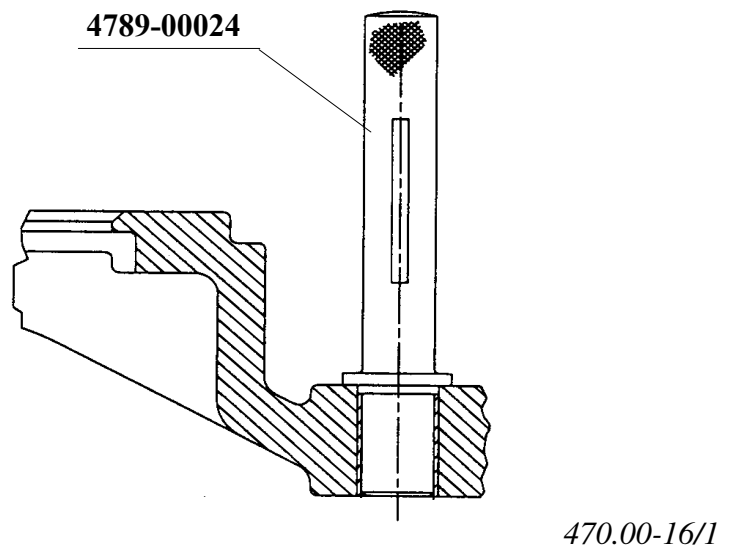

Fig. 1.: PRESSING THE BUSHING IN AND OUT
Eg.: If diameter of the trued-up brake drum is 422 mm, true-up the brake shoe to R 210.6 - R 210.3 mm as shown in Fig. 1.
If the anchor pin bushing (16) are to be replaced, drive out by means of No. **8839-00371** driver and drive in the tool shown (Figure 1.).